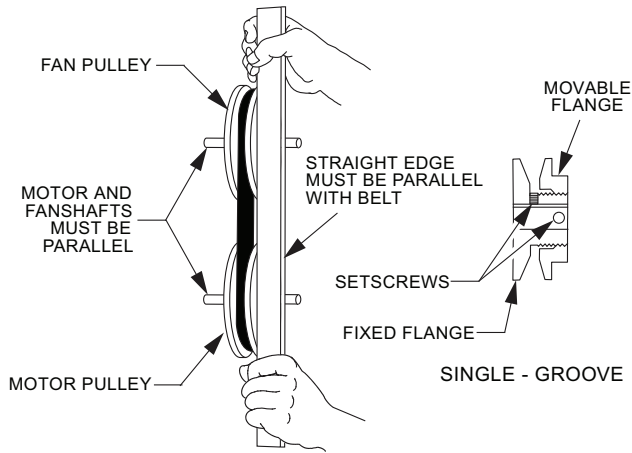

Fig. 7 — Supply-Fan Pulley Adjustment
2. Slide the fan pulley along the fan shaft. Make angular alignment by loosening the motor from its mounting. See Fig. 7.
24. Align the motor pulley and blower wheel pulley using a straight edge. See Fig. 7.